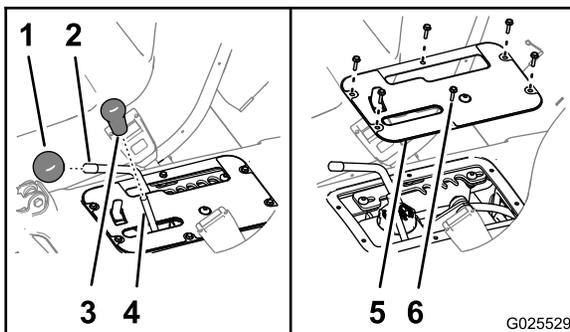

Figure 70
- Remove the knobs from the hydraulic-lift lever and the speed-range lever (Figure 70).
- Remove the 6 hex-washer screws (#10 x 3/4 inch) that secure the control-cover plate to the seat base, and remove the cover plate (Figure 70).
- Align the holes in the control-cover plate to the holes in the seat base (Figure 70).
- Secure the plate to the base with the 6 hex-washer screws (Figure 70) that you removed in step 2.
- Thread the knobs onto the rods for the hydraulic-lift lever and the speed-range lever (Figure 70).
- Secure the plate to the base with the 6 hex-washer screws (Figure 70) that you removed in step 3.